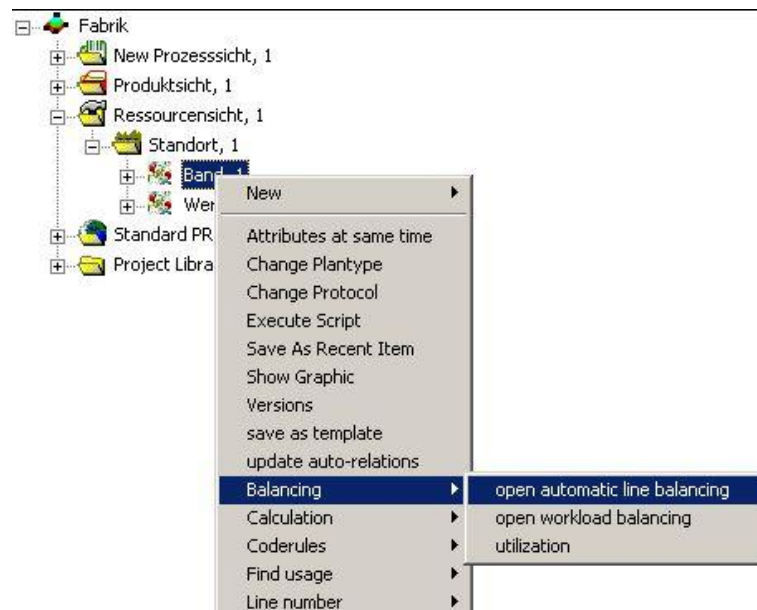

Figure 99: Opening Automatic Line Balancing
- 2) Press the right mouse button. Click **open Automatic Line Balancing** in the open popup menu. *Please refer to the Figure 99.*